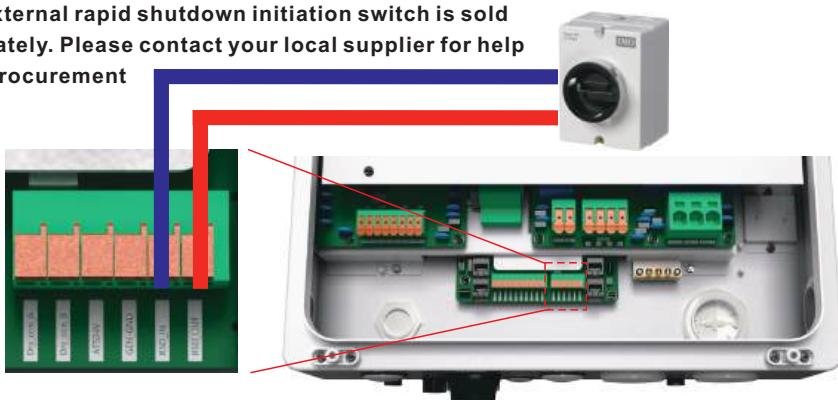

Figure 5.15 External RSD Initiation Switch
2. Remove the red jumper from the RSD_IN and RSD_OUT terminals (see Figure 5.15)